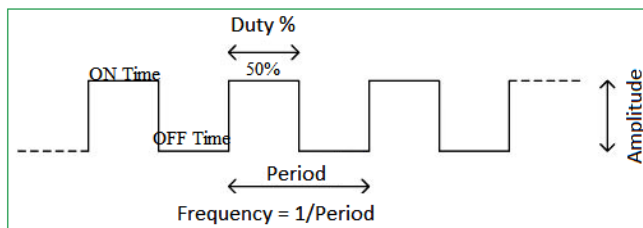

Figure 1: Square waveform
- Digital signals take on a square waveform where their value can be either high or low (figure 1).